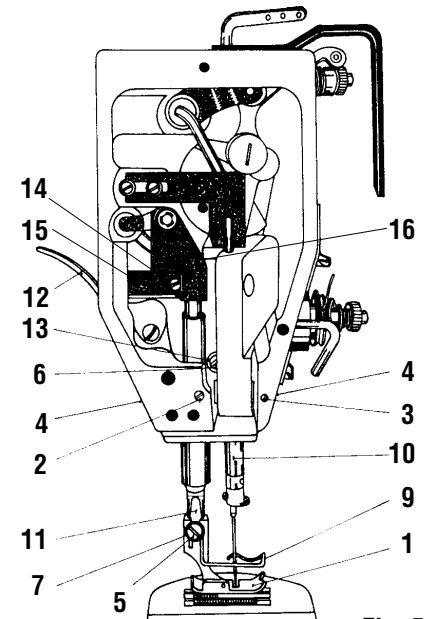

Fig. 5
8. Presser foot replacement (Fig. 5)
9. Presser foot lifting setting (Fig. 5, 6, 7, 8)
10. Setting of the needle bar height (Fig. 5)
(Fig. 5)